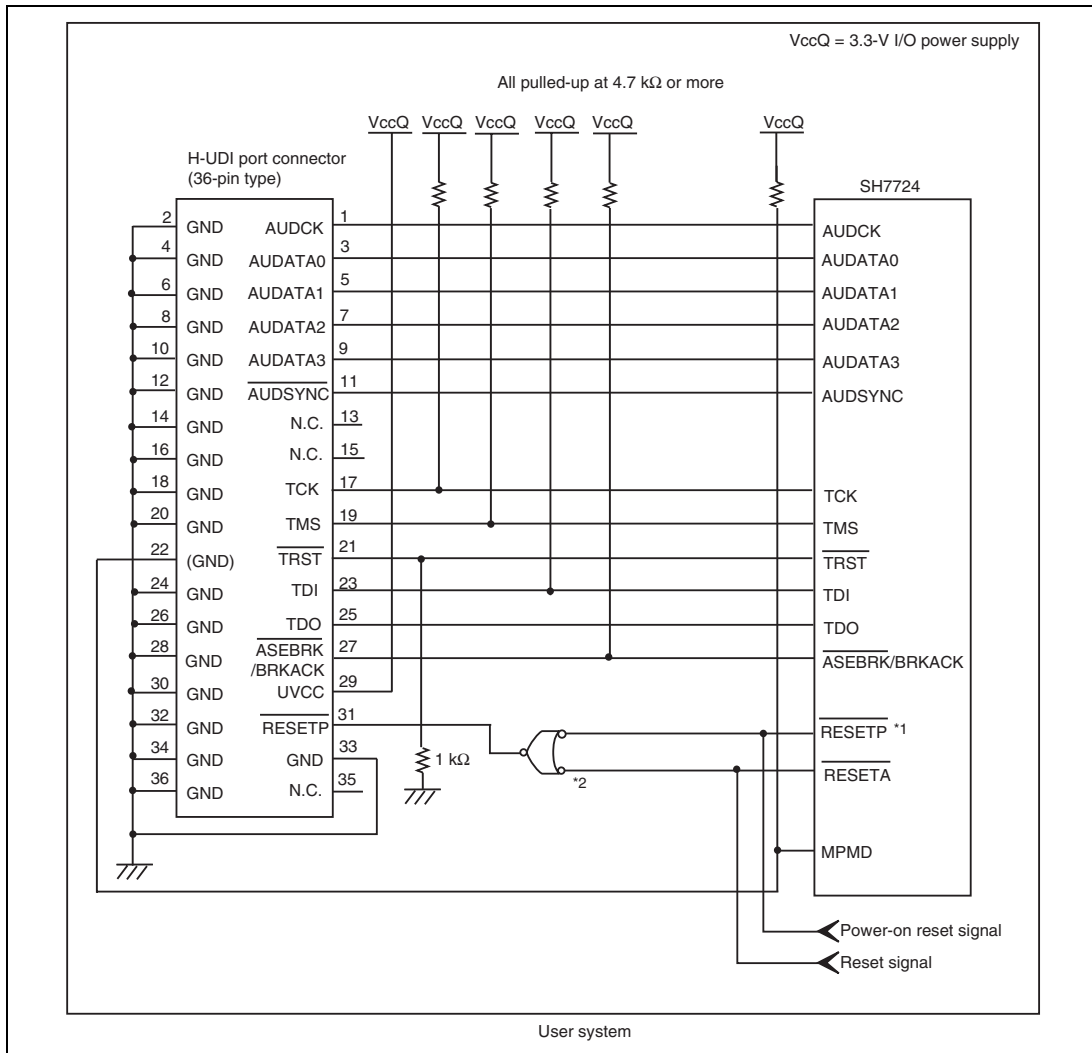

Figure 1.5 Recommended Circuit for Connection between the H-UDI Port Connector and MPU when the Emulator is in Use (36-Pin Type)
5. Connect RESETP# and RESETA# to the user system if required, as shown in figure 1.5.
Figure 1.5 shows a recommended circuit for connection between the H-UDI and AUD port connectors (36 pins) and the MPU when the emulator is in use.
- (1) When the emulator is used: MPMD = 0
- (2) When the emulator is not used: MPMD = 1Figure 1.5 shows an example of circuits that allow the MPMD pin to be GND (0) whenever the emulator is connected by using the user system interface cable. When the MPMD pin is changed by switches, etc., ground pin 22. Do not connect this pin to the MPMD pin.
8. The resistance values shown in figure 1.5 are for reference.
When the circuit is connected as shown in figure 1.5, the switches of the emulator are set as SW2 = 1 and SW3 = 1. For details, refer to section 3.8, Setting the DIP Switches, in the SuperH™ Family E10A-USB Emulator User's Manual.